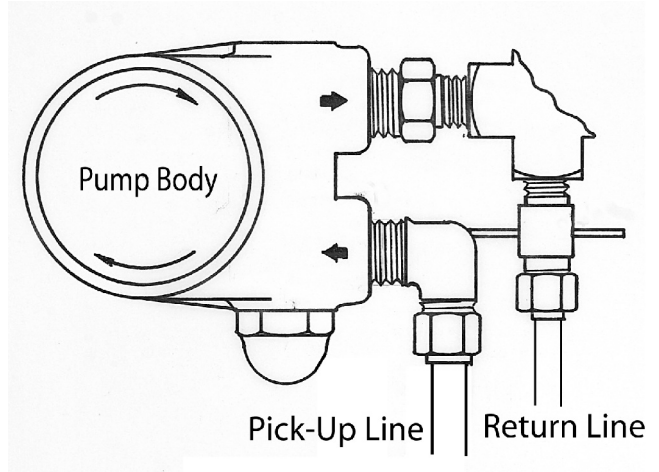

Fig 3
1. Take the Tubing end of the Pick-Up Check Valve with Filter and feed it up through the larger of the two holes in the Lid. Place the 3/8" Insert into the Tubing and push into the 3/8s nut, tighten with wrench. (Fig. 3, pg. 6).
- Loosen the band clamp on the pump, tip it up to reach the adjustment screw that is located in the Cap on the bottom of the pump. (Fig. 3, pg 6)